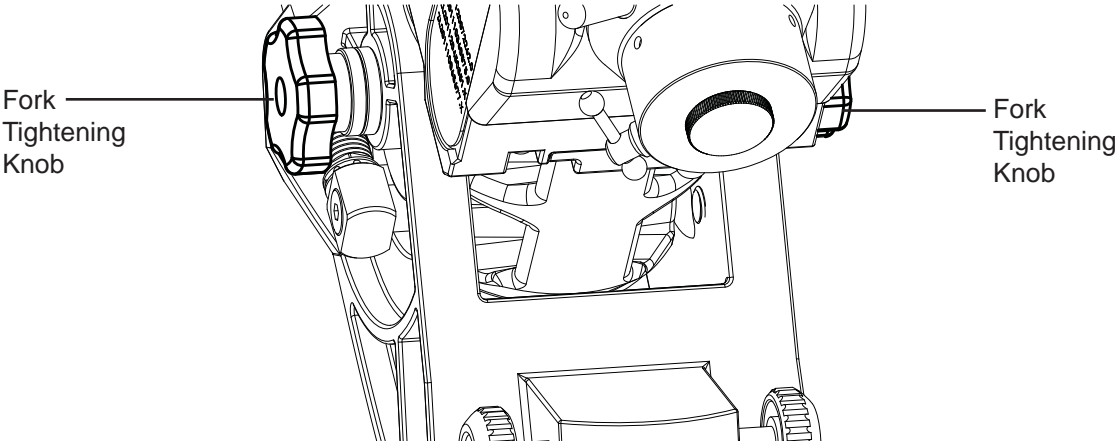

Fig. 2.3a
- 1. Loosen the two fork tightening knobs located on the sidewalls of the mount. (Fig. 2.3a)